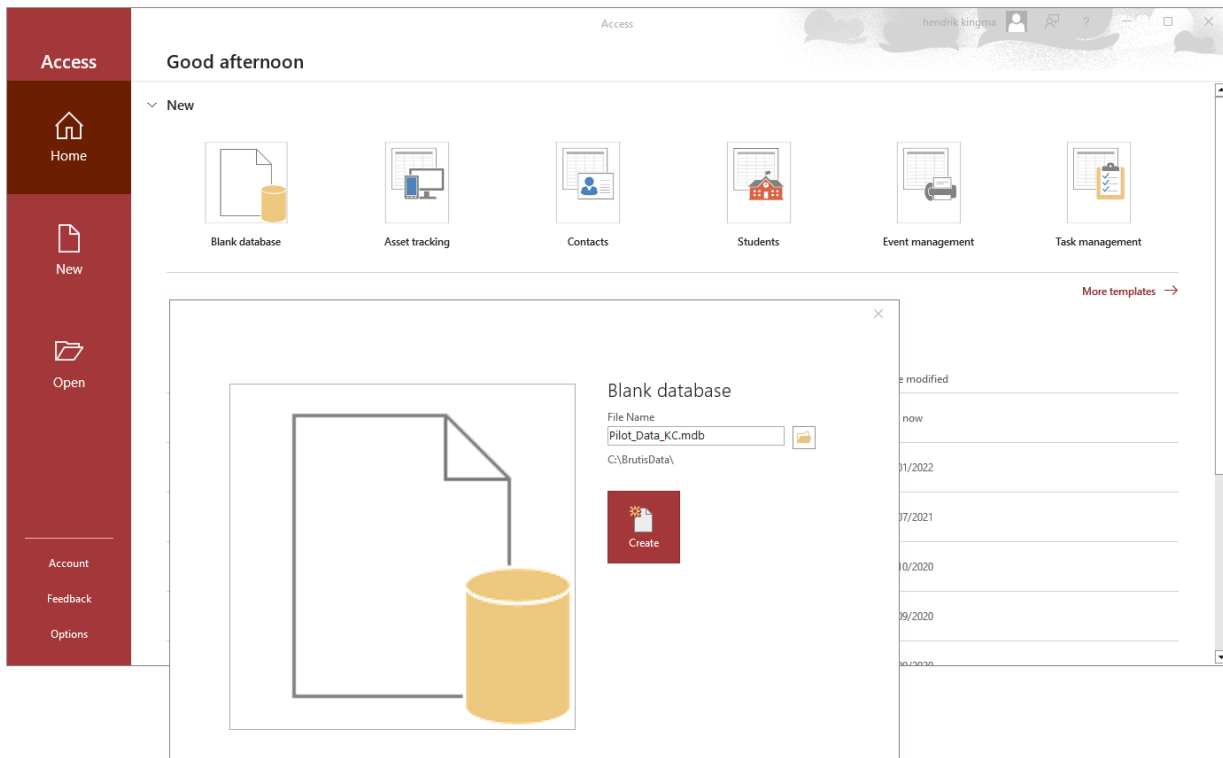

Figure 3.4.1
- a. Click on the "**New**" button and choose the "Blank Database" icon. A "Blank Database" dialog will appear as depicted in figure 3.4.1;